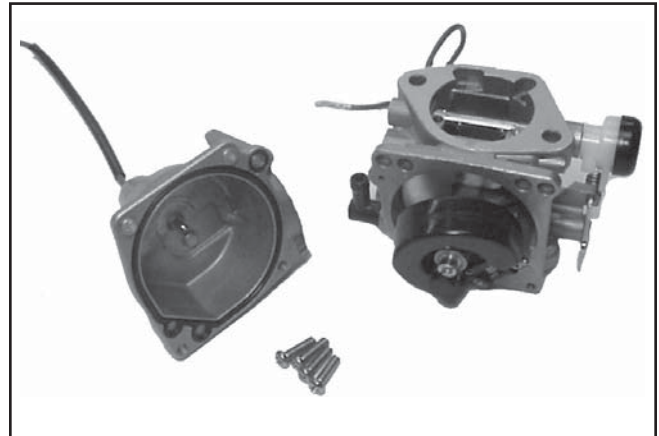

Figure 5-9. Fuel Bowl Removed from Carburetor.
1. Clean the exterior surfaces of dirt or foreign material before disassembling the carburetor. Remove the four fuel bowl screws and carefully separate the fuel bowl from the carburetor. Do not damage the O-Ring(s). Transfer any remaining fuel into an approved container. Save all parts. See Figure 5-9.